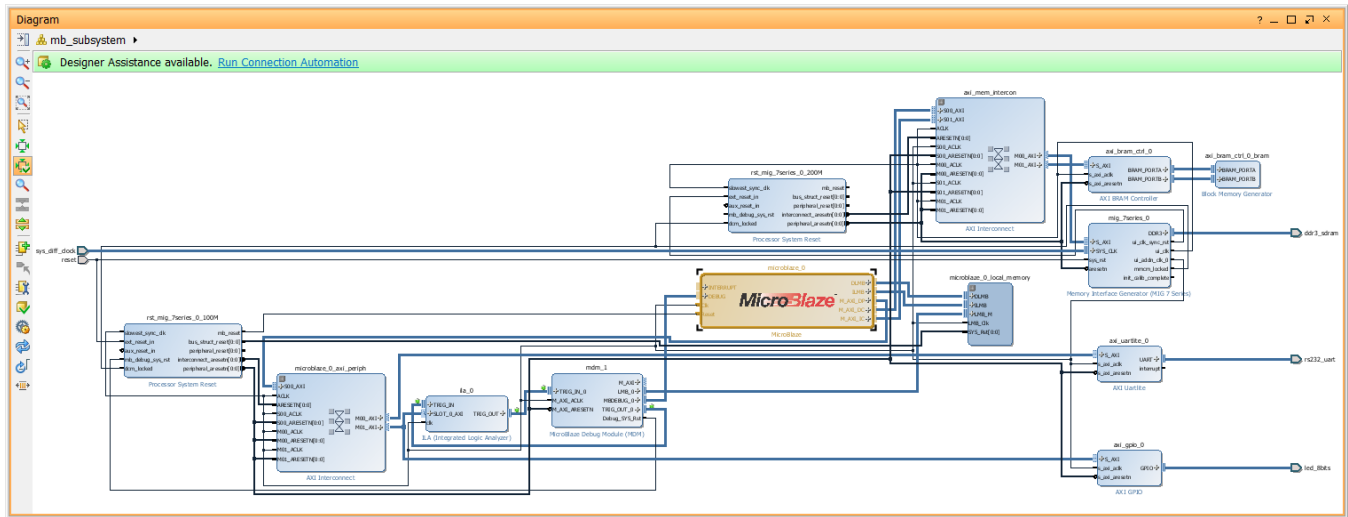

Figure 118: Block Diagram After Regenerating the Layout
- Click the **Regenerate Layout** button  in the IP Integrator toolbar to generate an optimum layout for the block design. The block diagram looks like Figure 118.